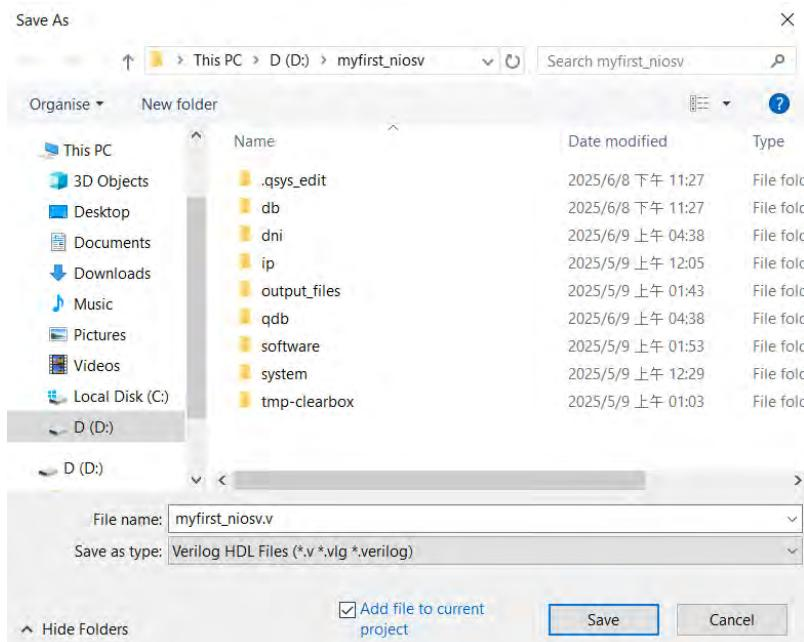

Figure 2-35 Save Verilog file
4. Choose **Save** Icon in the tool bar. There will appear a window as shown in Figure 2-35. Makesure the file name is **myfirst_niosv.v** and click **Save**.